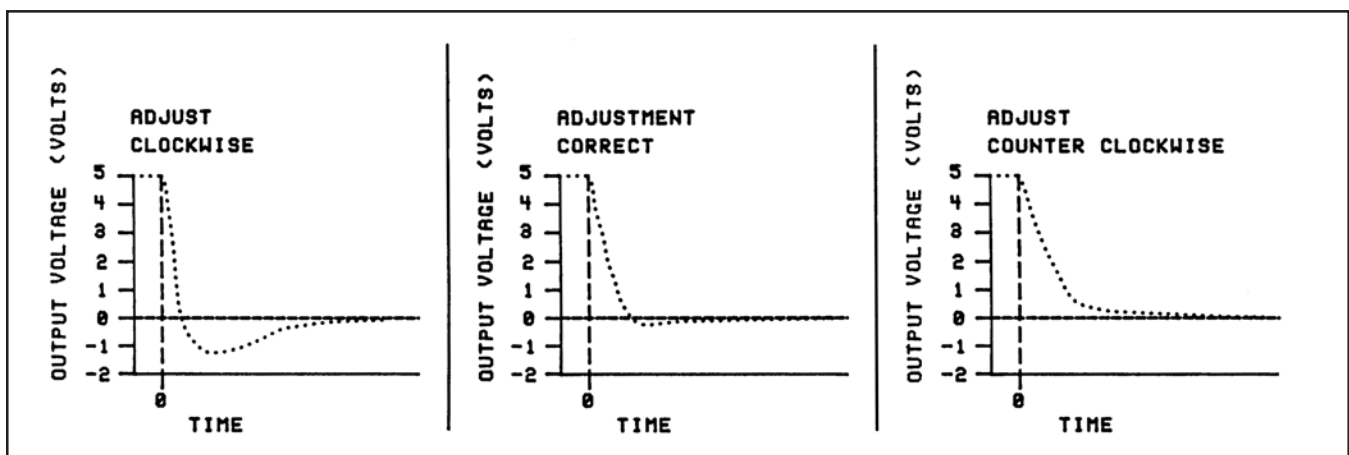

Figure 3-7 Fast Response Adjustment
- c. The behavior of the flow signal during this transition between 100% and zero percent flow indicates the adjustment required of the anticipate potentiometer (refer to Figure 3-7).